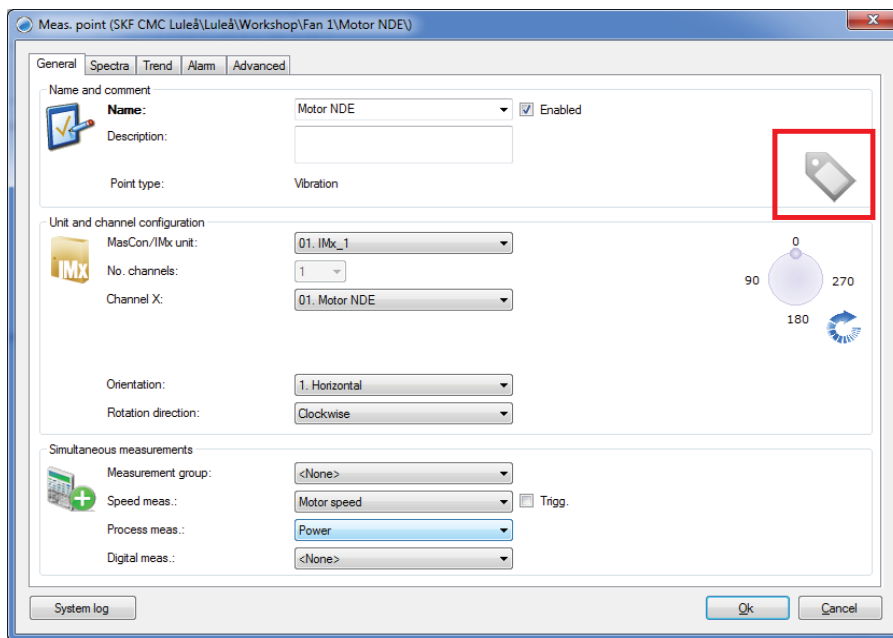

Fig. 5. Add a tag from the measurement point window.
- 4 A new tag can also be added directly from the measurement point window by clicking on the tag (→ fig. 5).